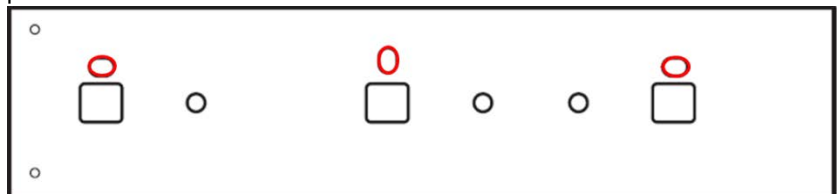

Figure 46. Slots for the lens grippers on the back of FastFlex Gen2 LED board
Three (3) mounting holes (Figure 46, in red) are used for pre-assembly of the lens plate on the LED board.